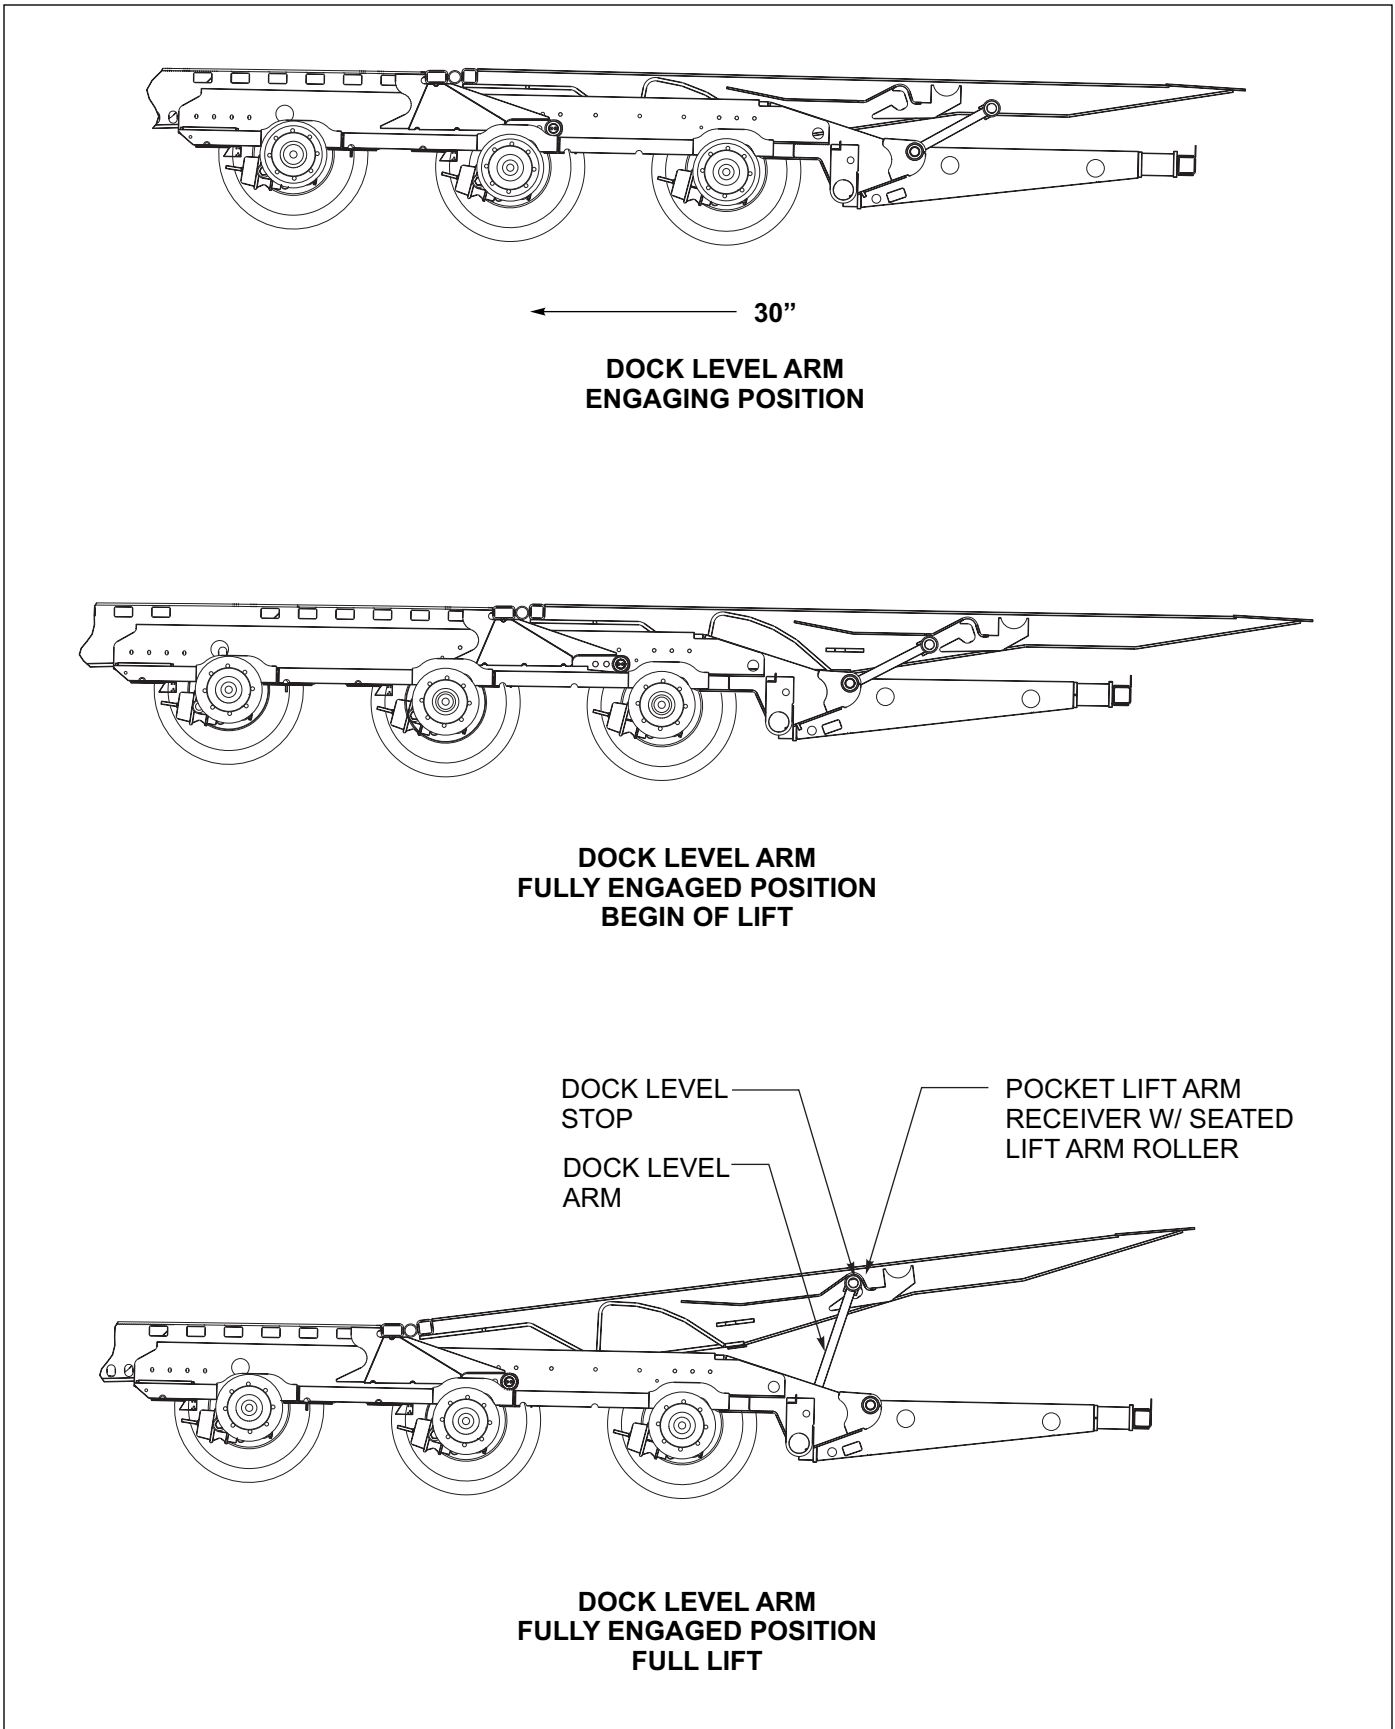

Figure 3-9: Dock Leveler Operation
- Use Axle/Tail Control Lever to pull undercarriage forward approximately 30" (See Figure 3-9.)